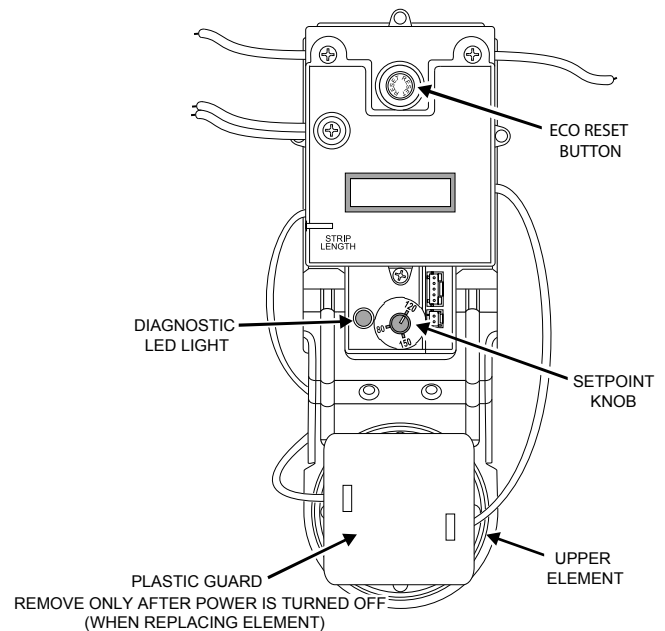
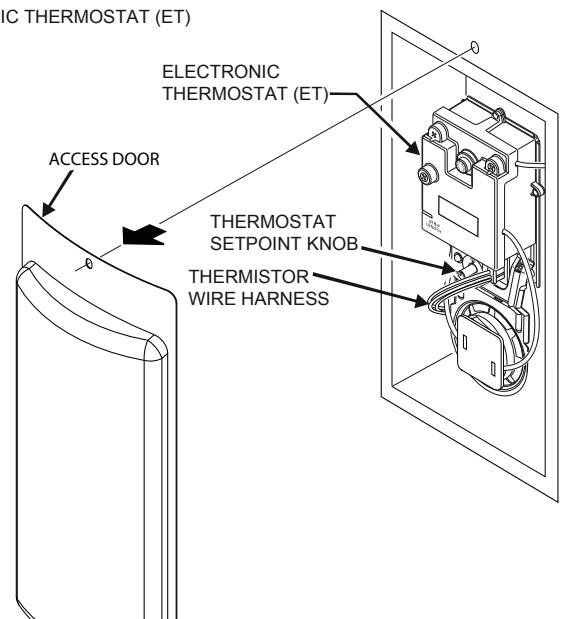

FIGURE 14
FIGURE 15
This water heater is designed to automatically shut-off in the event that the water temperature exceeds 180° F (82.2° C). A temperature limit switch, or ECO (Energy Cut Off), is used to shut off the power to the system if the water temperature exceeds 180° F or 82.2° C. The ECO can be reset by firmly pushing in the red reset button located on the electronic thermostat. (See Figure 14 on page 17.) If the ECO continues to shut-off the water heater contact a qualified service technician.
The Electronic Thermostat (ET) may be accessed by removing the upper Access Door (See Figure 15). Adjust the set temperature by rotating the set point knob right or left for the desired temperature (See Figure 14). The Electronic Thermostat consists of an electronics box that contains a low voltage power supply, the thermostat set point knob, relays to switch between the upper and lower heating elements, one control thermistor, a connector for the lower element control thermistor, microelectronics to convert the thermistor signals and perform switching and other logic functions, and a connector to tie the Electronic Thermostat (ET) to the Kenmore Smart Water Heater Module (purchased separately) located on the top of the water heater. The majority of the self-diagnostics are located in the Electronic Thermostat (ET), including the dry-fire protection intelligence. The thermostat circuit is designed so that when the upper heating element calls for heat, the power is directed to that element even if the lower element is also calling for heat.
The Green/Red LED light indicates the status of the electronic thermostat (Figure 14).